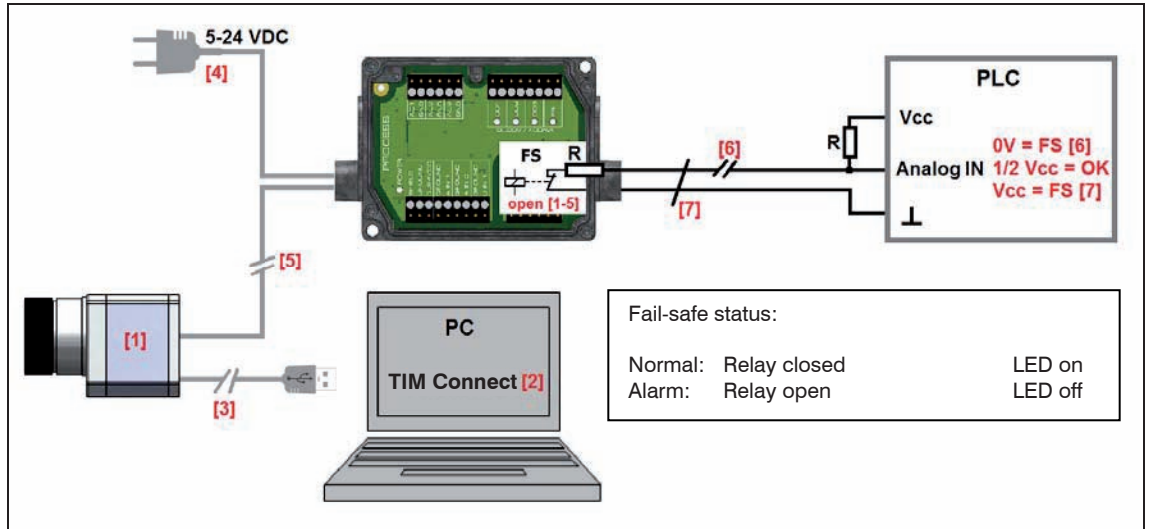

Fig. 32 Example 2 for a fail-safe monitoring of the TIM with a PLC
**Fail-safe monitoring states, see Fig. 32**